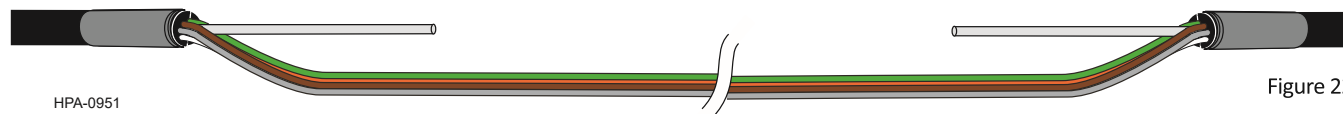

Figure 22
**Step 8:** Separate the buffer tubes from the central member. Cut the central member at each end of the midspan (near the tape marks) to the appropriate length for strain-relief. If you will be installing cable strain-relief hardware that clamps into the jacket, place three layers of vinyl tape over the area where the clamps will make contact with the jacket (Figure 22).